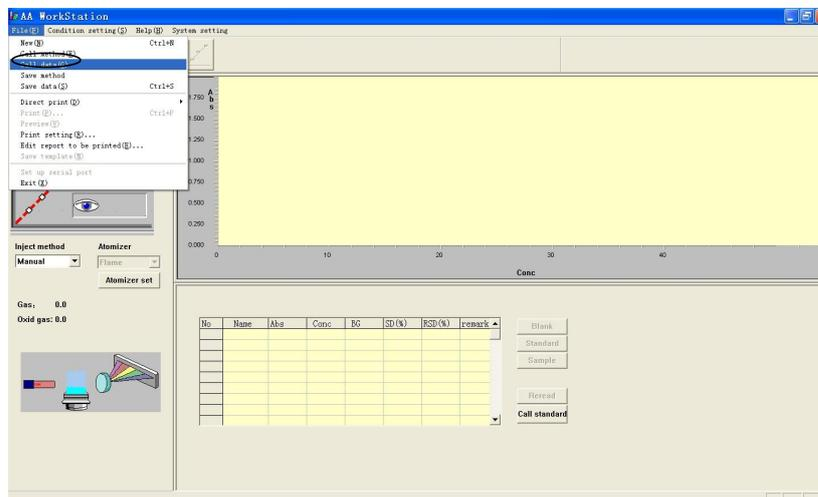

Figure 4-31
a. Select "Save method" in the "File" menu, as shown in Figure 4-31.